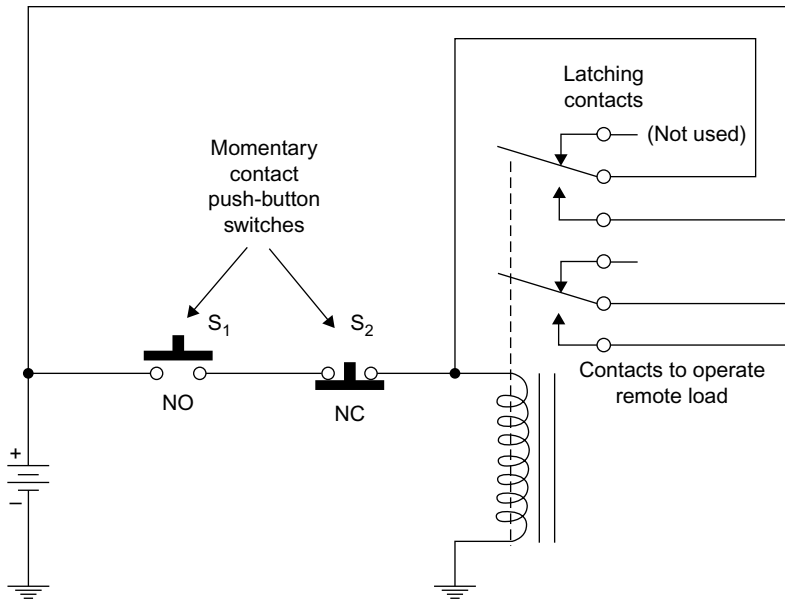

FIGURE 12.17 Latching a relay with its own contacts.
A relay can be made to latch electrically if it has an extra set of contacts. A typical latching circuit is shown in Figure 12.17. This relay has two sets of form-C contacts that operate simultaneously. The lower set of contacts is used to operate the load. The upper set of contacts is used to automatically latch the relay once it is pulsed. Switch S_1 is a normally open (NO) momentary contact pushbutton that is used to apply power to the relay coil. Depressing the button